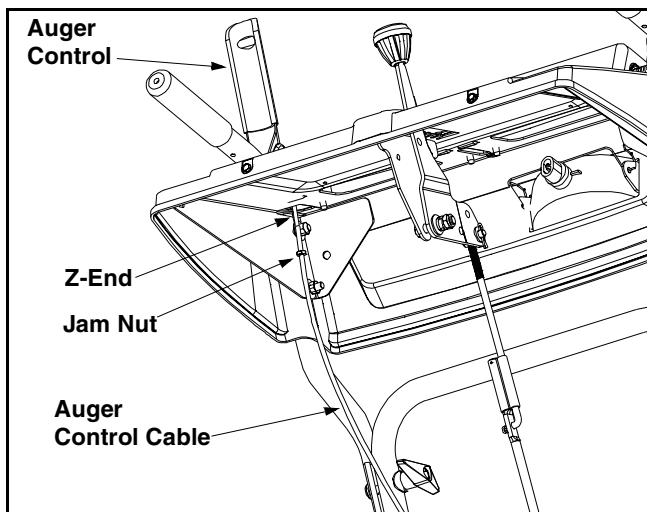

Figure 6
- Retighten the hex jam nut. See Figure 6.
- Loosen the jam nut on the traction drive cable and adjust the cable as necessary. Refer to Figure 6.